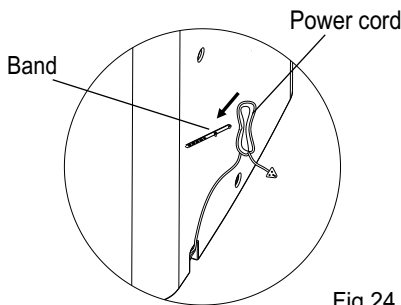

Fig.24
- Stop the appliance and unplug it, wrapped the cord and bundle it with the buckle (Fig.24). Remove the batteries from the remote controller.